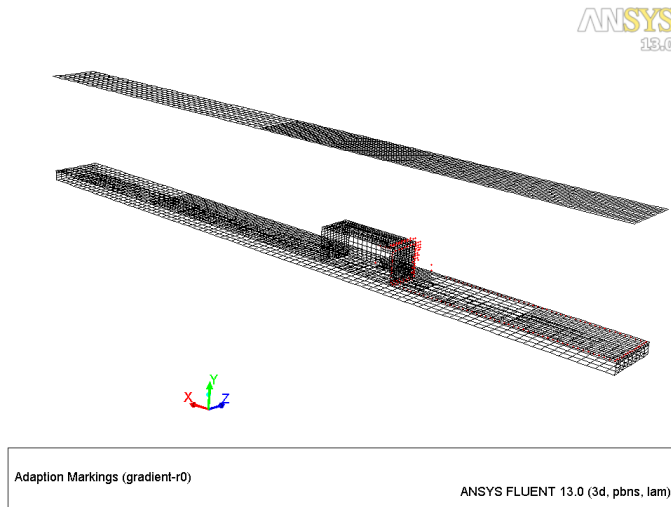

Figure 18: Cells Marked (approx. 215) for Second Pressure Gradient Adaption
- Figure 18 shows the cells marked for the second pressure gradient adaptation.